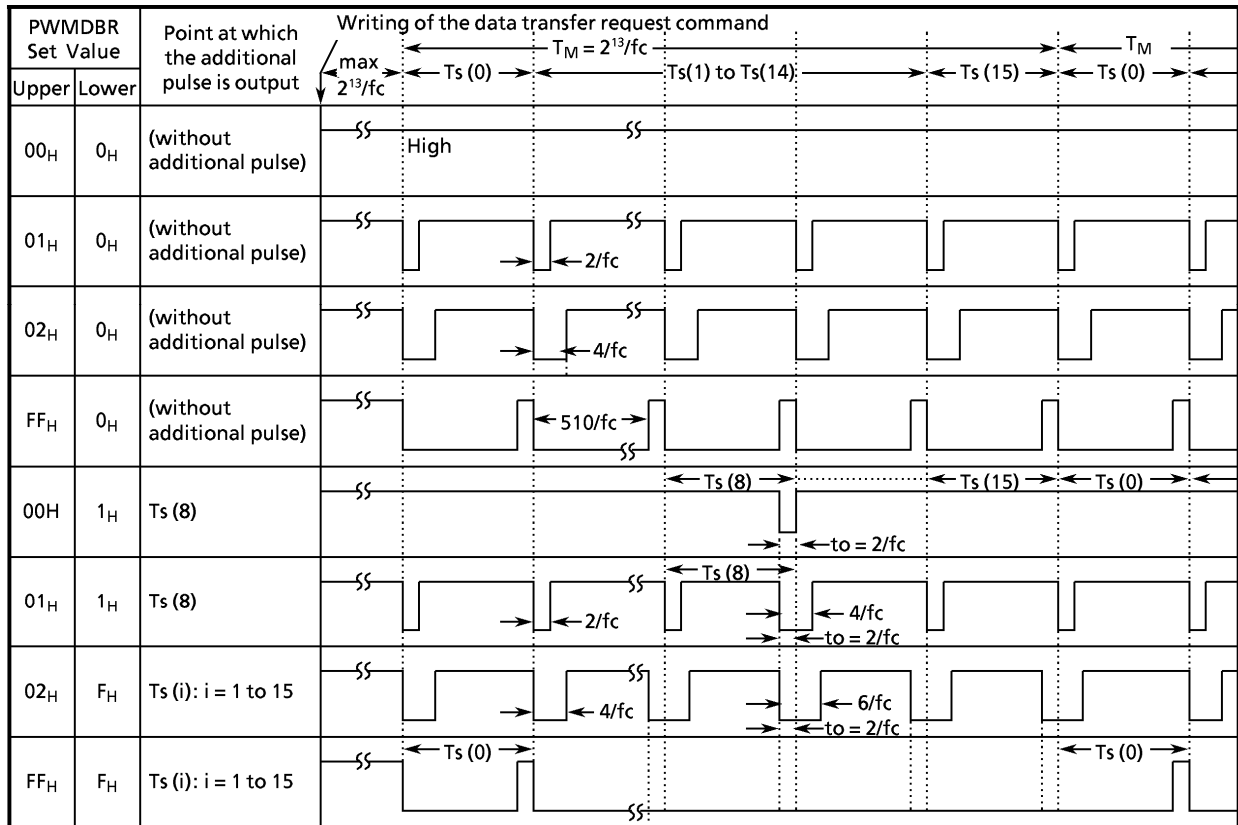

Figure 2-68 (3). PWM Output Pulse
To output always "H" after  $T_M$  period ( $T_s(0)$  to  $T_s(15)$ ) of the PWM pulse which is being written is completed, "00H" must be written to the lower and the upper of PWMDBR according to the procedures mentioned in figure 2-68 (2) and the data transfer request command must be written. Note that the maximum time from the point at which "00H" is written until PWM pulse is always output by "H" is  $2^{13}/f_c$ .